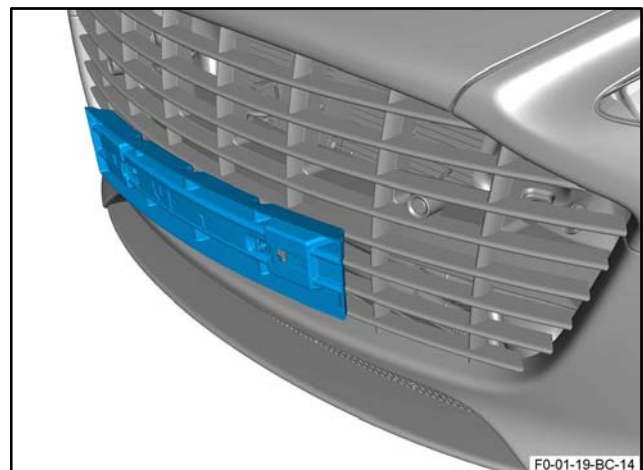

Figure 43
7. Put the front license plate plinth into position (refer to Figure 43).